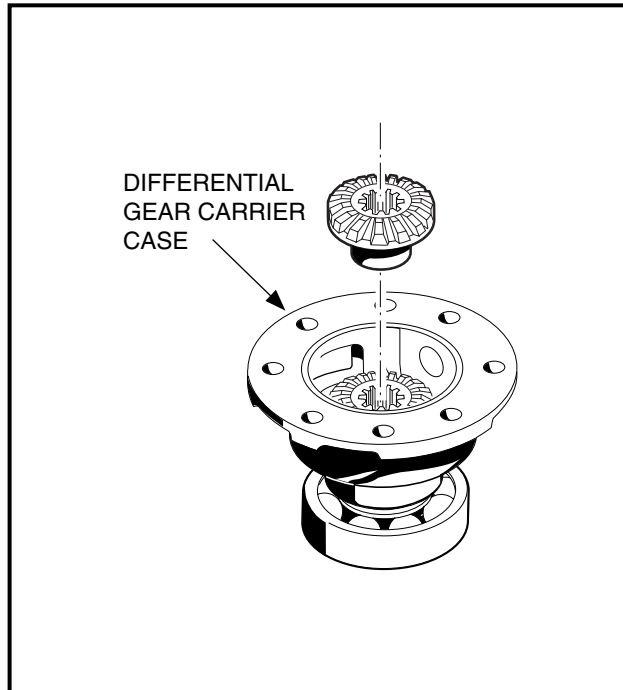

Figure 6-34 Differential Gear
- Install differential gear (82) into carrier case (75) (**Figure 6-16, Page 6-9**). See also **Figure 6-34, Page 6-18**.